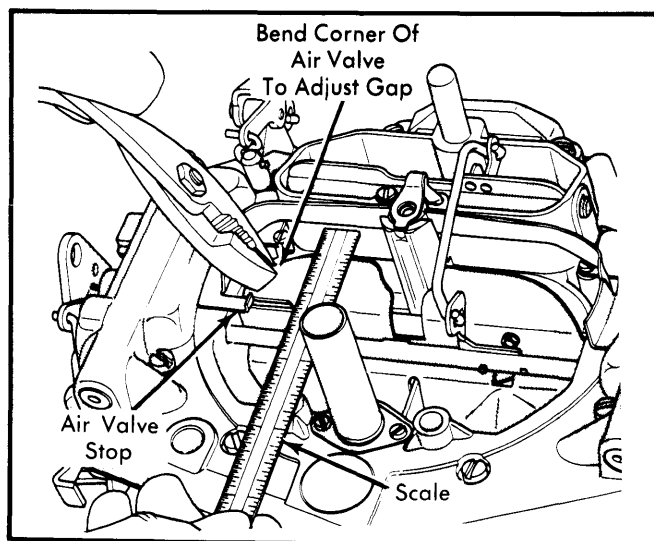

**Fig. 3** Checking Secondary Air Valve Alignment
1) Observe carburetor from directly above. See Fig. 3.